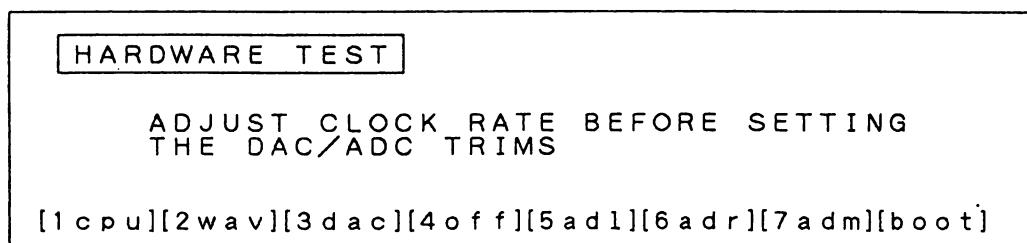

Fig. 4-3
- 2) The following menu(refire to Fig. 4-3) will appear on the LC-display when the model S1000HD is set to the HARDWARE TEST mode.